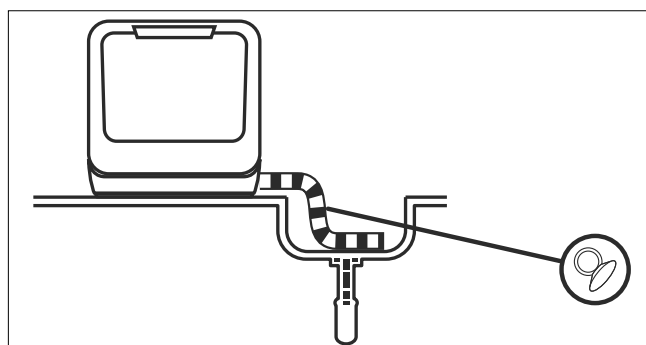
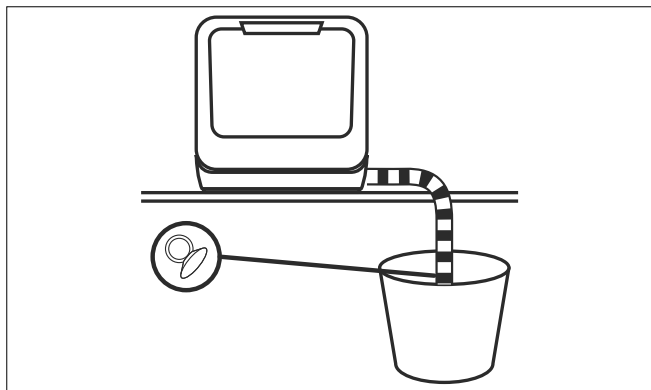

Fig. 10 – Discharging into a sink
Fig. 11 – Discharging into a container
- ▶ Hang the end of the waste water hose in a sink (see **Fig. 10**) or a sufficiently large container (see **Fig. 11**).